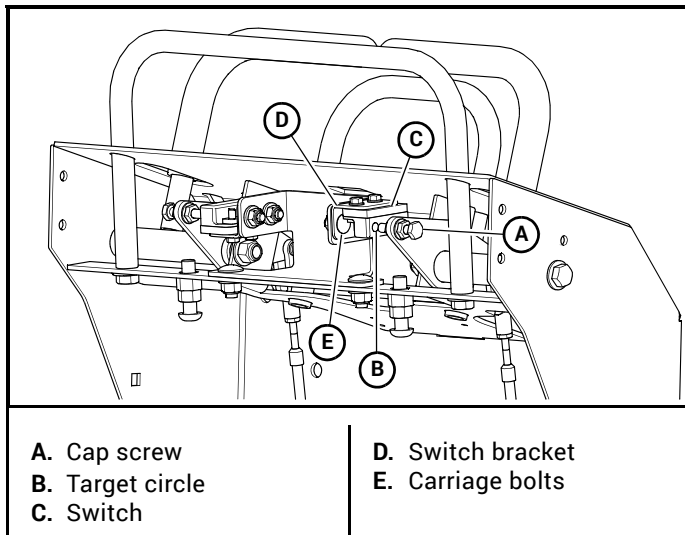

Figure 4-6
- Loosen the two cap screws that hold the switch. Slide the switch in the slot to move it. Figure 4-6,